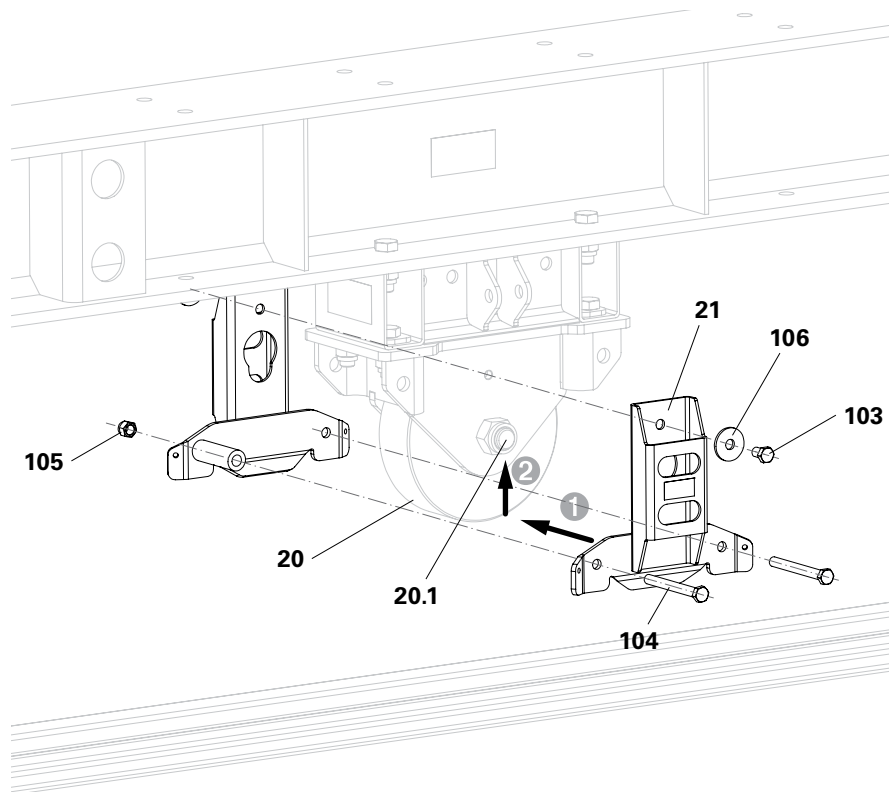

Fig. B4.13
1. Slide the Flange Cage (21) over the wheel bolt (20.1) and push it upwards.
2. Fix the Flange Cage (21) to the Heavy-Duty Wheel (20) on both sides using bolts M16x25 (103) and washers M16 (106).
3. Connect the two Flange Cages to each other with bolts M16x150 (104) and self-securing nuts M16 (105).
- (Fig. B4.13)